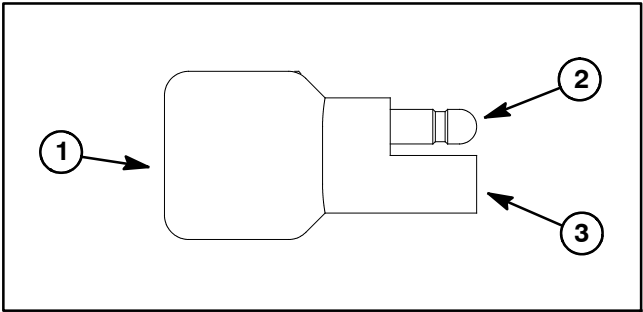

Figure 66
- 3. The diode (Fig. 66) can be tested using a digital multimeter (diode test or ohms setting) and the table below.